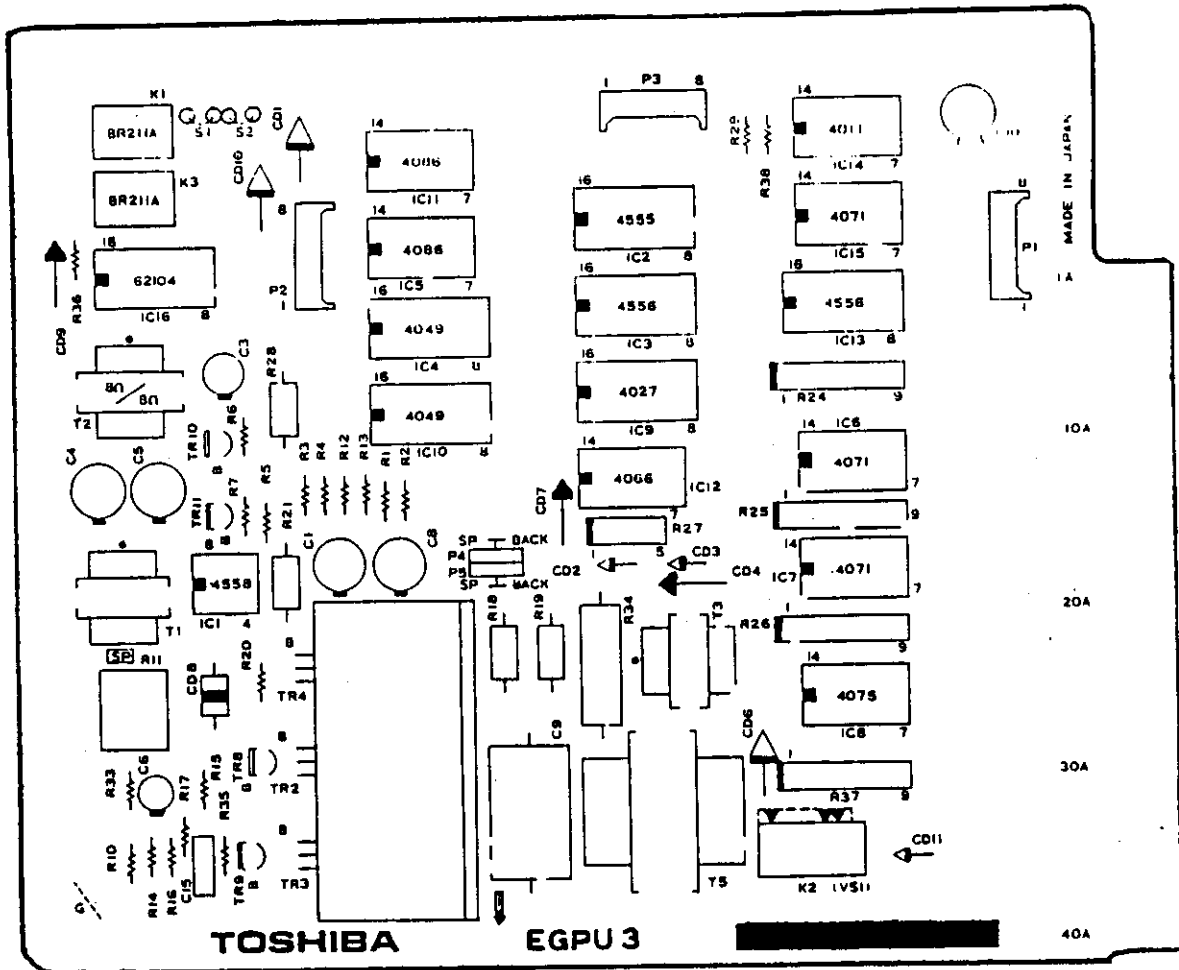

FIGURE 10 - EGPU-3 PCB - PHYSICAL LAYOUT
5.2.1 If the 3-Zone Group Page, All Call, and External Page options are to be provided with the system, an EGPU PCB model 3 must be installed in the EKSU as indicated in TABLE A. (Before attempting to install an EGPU PCB, review Section 100-004-276, EGPU Printed Circuit Board Installation Instructions). See Figure 10.